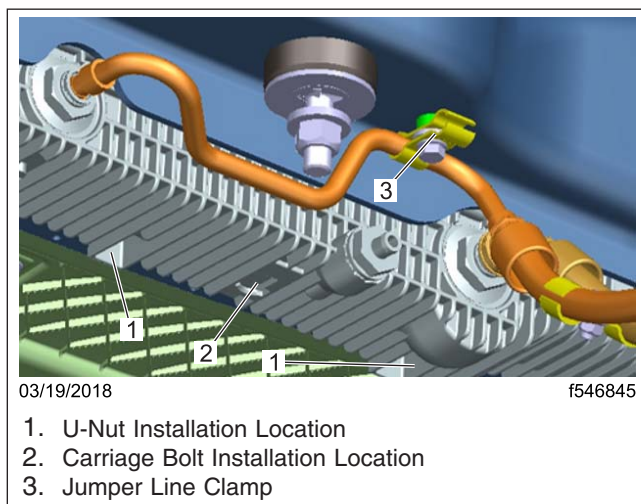

Fig. 6, ITOC Assembly
2. Install the new U-nuts and carriage bolt supplied in the kit in the lower radiator tank. See Fig. 6.